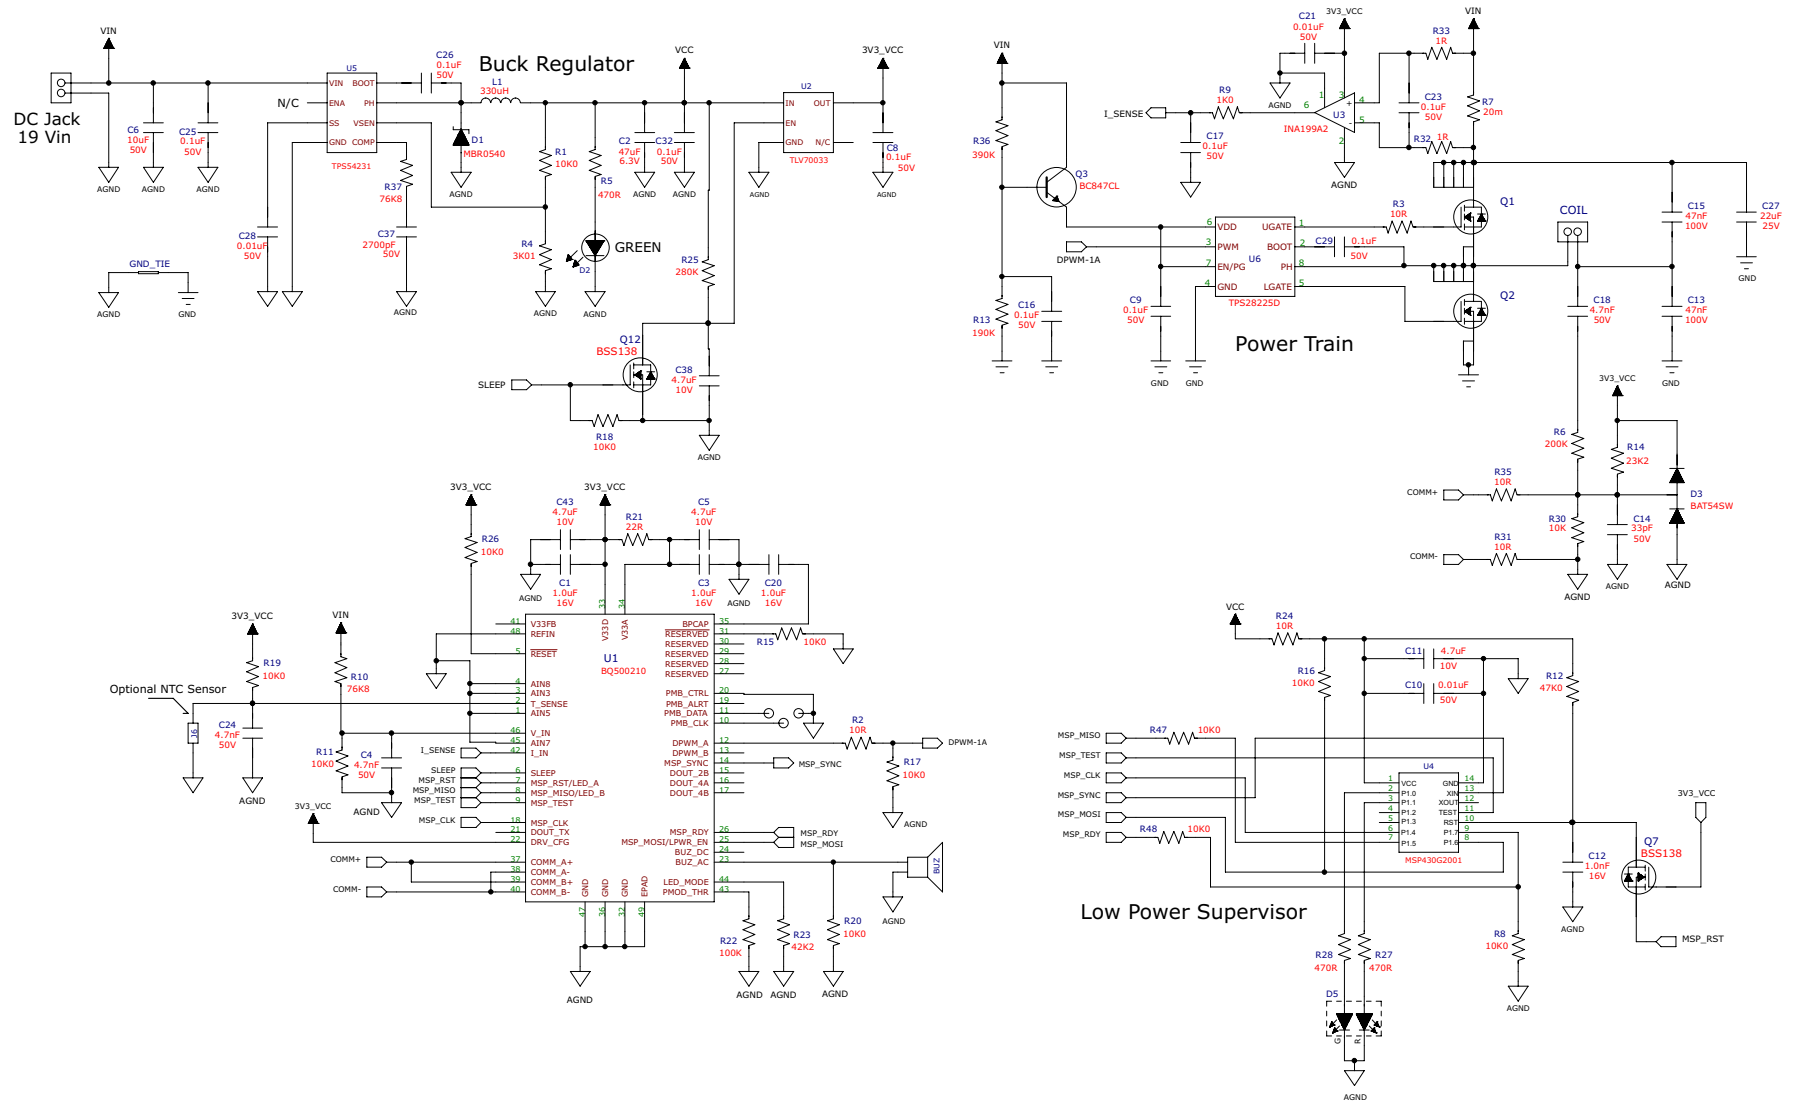

Figure 6. Typical Application Diagram for Wireless Power Transmitter with Reduced Standby Power
The application diagram for the transmitter with reduced standby power consumption is shown in Figure 6.
This bq500210 shut-off period is set by the RC time constant network of R25, C38 (from Figure 6). WPC compliance mandates the power transmitter controller awakes every 0.4s to produce an analog ping and check if a valid device is present. Altering this time constant, therefore, is not advised.
- Changed Figure 6 14